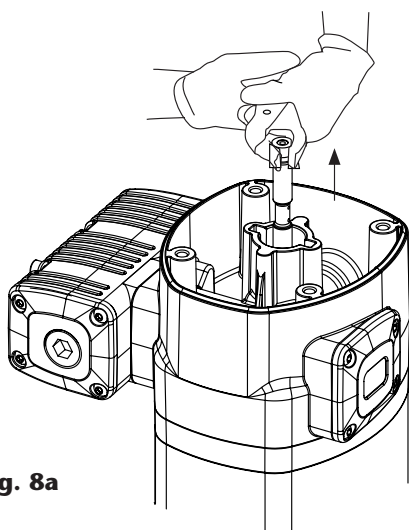
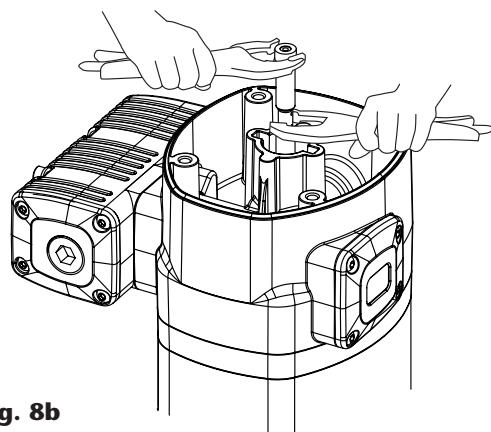

Fig. 8a
Fig. 8b
1. Unscrew the bolts (1) and remove the cap (3).
2. Unscrew the sensor sleeve (4).
3. With a manual clamp on the nut (5), pull the rod (37) outwards until its central recess appears (fig. 8a). Then, with another manual clamp, grab the rod (37) on said recess to prevent sealing surface to be damaged, and unscrew the nut (5) (fig. 8b).
4. Remove o-ring (6) and ring (7), and replace them with new ones later.
5. Unscrew the bolts (56). Pull the motor body (13) outwards to free it along with bridle (34).
6. Take away the gasket (9) and replace its seals (8) and (10).
7. Unscrew the bolts (35) and split the motor (13) from the flange (34). Take away the washer (29) and replace the seal (8).
8. Take away the cylinder (48) while carefully holding the air piston (41).
9. Remove the pin (65) from male coupling (66). Unscrew bolt (63), connection nut (64) and male coupling (66). Remove piston assembly (41).
10. Open circlip (57) and remove piston rod learning (52).
11. Replace the U-ring (51). (Lip facing up).
12. Replace up piston U-seal (40). (Lip facing up).